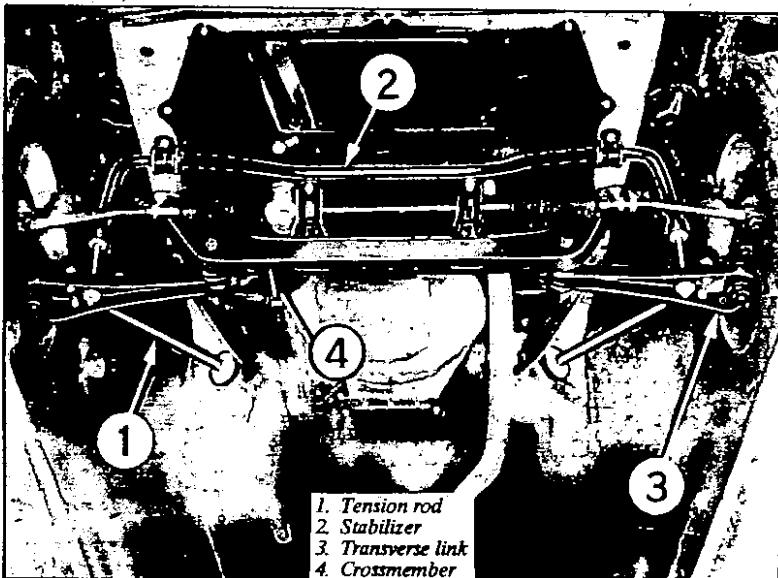

Fig.C.10 View of the front suspension
2. Remove the splash board. Refer to Fig.C.10, and detach the compression rod (1), the stabilizer (2), from the transverse link (3). Detach the steering linkage from the suspension crossmember (4).